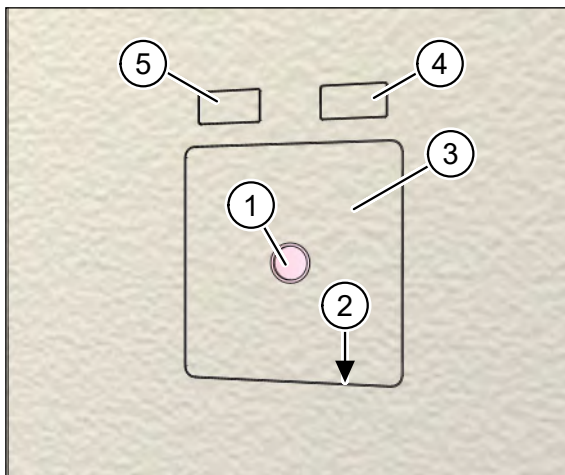

Fig. 33: Installation kit plastered on the inside
- ▶ Remove the signal cover (item 1 in Fig. 33).
- ▶ Use a blade to score the plaster on the inside of the plastering trim (item 2 in Fig. 33).
- ▶ Carefully remove the plaster cover (item 3 in Fig. 33) and the cardboard insert behind it.
- ▶ Remove the plaster covers over the supply air duct (item 4 in Fig. 33) and / or extract air duct (item 5 in Fig. 33).